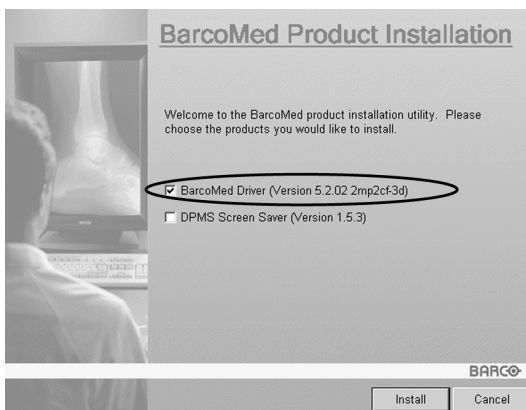

Figure 38
3. To update the driver, clear the checkbox next to (figure 38) and click **"Install"**.